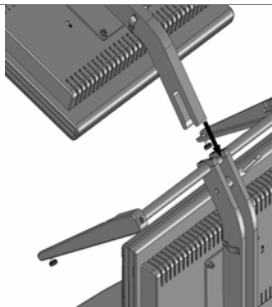

Figure 5. The Upper monitor mounting arm slides into the lower mount assembly.
3. Remove the top LCD panel from the shipping case and install the curved slotted post on the support bar between the two posts on the back of the bottom LCD panel. Make sure the slot is fully seated in the bottom post. Tighten the plastic handle (about ½ turn clockwise). (See Figure 5.)